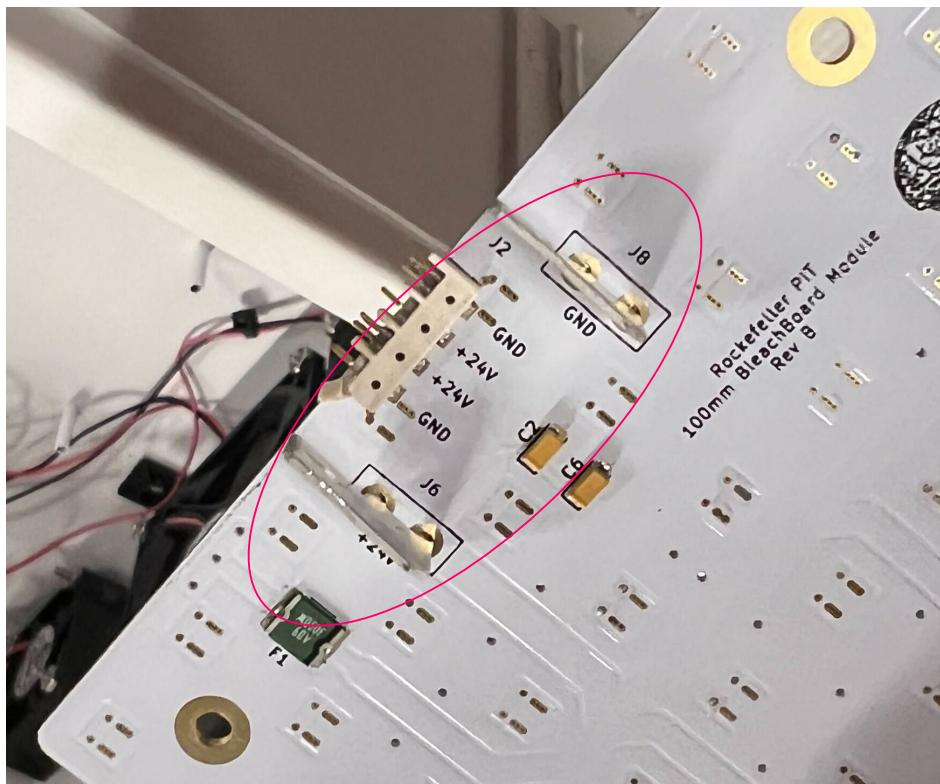

Figure 3: Orientation of the blade connectors. They should be pointed to the edge of the board.
11. Let the board cool down after reflowing, then solder the tab connectors to the through holes marked J5-J12. You will only need to solder one set of tab connectors, and only to adjacent through holes (for example, J6 and J8 can be soldered in, and the left rest blank). The tab connectors should be sticking out of the bottom of the board and faced towards the edge of the board. See Figure 3 for reference.